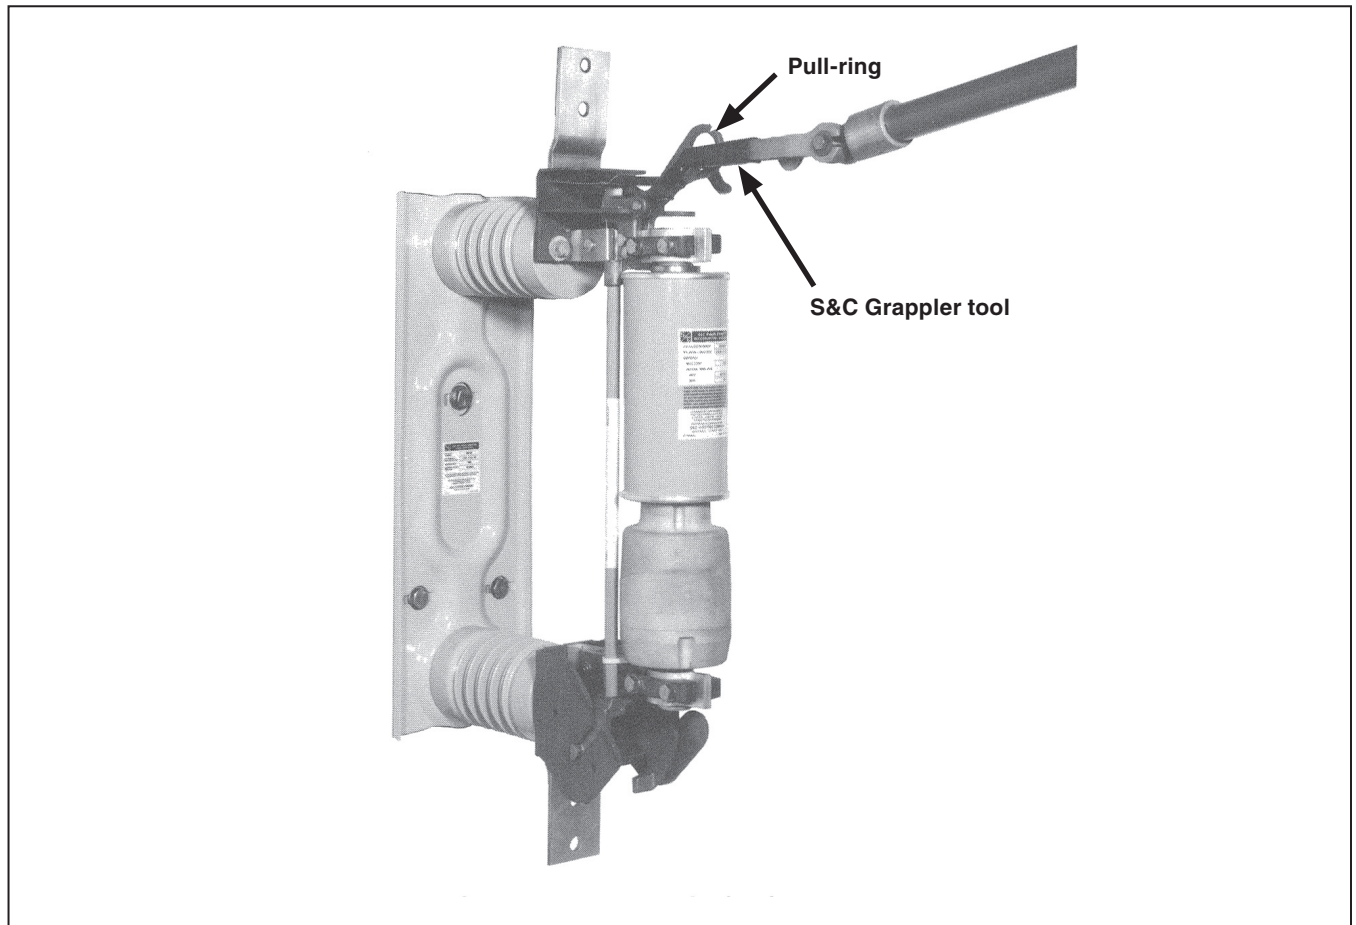

Figure 3. The Grappler tool, positioned for a closing (or opening) stroke, with the longer prong inserted in the holder pull-ring.
STEP 2. Use a universal pole equipped with an S&C Grappler tool to move the holder to the **Closed and Latched** position. Position the Grappler tool with the prongs pointed downward, and insert the longest prong in the pull-ring of the holder (see Figure 3). After the holder is in the **Closed** position, use the Grappler tool to push against the interrupting module to make sure complete closure was attained.
STEP 2. Use a universal pole equipped with an S&C Grappler Handling Tool to move the holder to the **Closed and Latched** position. Position the Grappler tool with the prongs pointed downward, and insert the longest prong in the pull-ring of the holder. See Figure 3 on page 7. After the holder is in the **Closed and Latched** position, use the Grappler tool to push against the interrupting module to make sure complete closure was attained.
- STEP 1.** Use a universal pole● equipped with an S&C Grappler Handling Tool■ to move the holder to the **Open** position. Position the Grappler tool with the prongs pointed downward, and insert the longest prong in the pull-ring of the holder. See Figure 3 on page 7. Disengage the Grappler tool from the pull-ring after the holder is in the **Open** position.